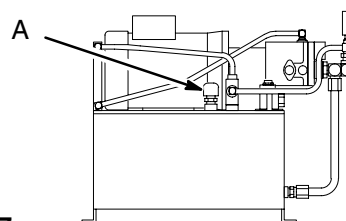

Fig. 17
8. Check the hydraulic oil level (A) to make sure it is in the safe zone on the dipstick. See Fig. 17. Add more hydraulic oil, if needed.